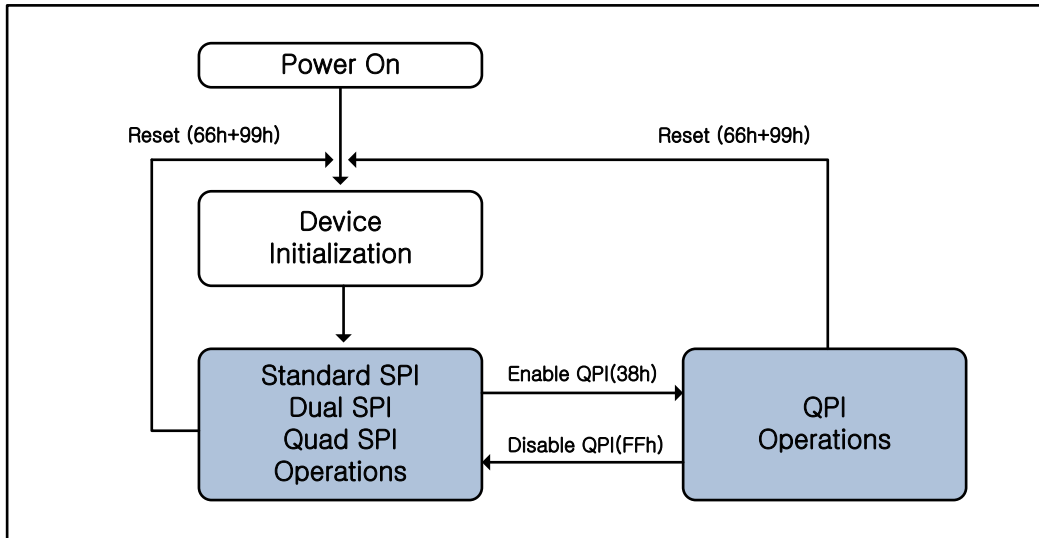

Figure 3. Operation Diagram of FM25Q64A
The FM25Q64A supports Quad Peripheral Interface (QPI) operation when the device is switched from Standard/ Dual/ Quad SPI mode to QPI mode using the “Enable QPI (38h)” instruction. To enable QPI mode, the non-volatile Quad Enable bit (QE) in Status Register-2 is required to be set. When using QPI instructions, the DI and DO pins become bidirectional IO0 and IO1, and the /WP and /HOLD pins become IO2 and IO3 respectively. See Figure 3 for the device operation modes.